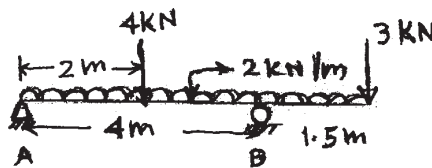

Fig.1.
- Q1)** A beam as shown in fig.1. Calculate a) support reaction b) shear force dia. With position of zero shear c) bending moment dia. With point of contraflexure. [15]